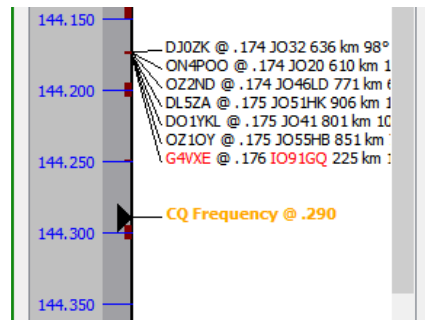

Figure 138 – Run frequency marker
- If operating in Run mode, the current Run frequency is marked on the display¹³⁹ as ‘CQ Frequency’, with the fractional frequency appended (see Figure 138); the marker changes colour if the rig moves off the run frequency.